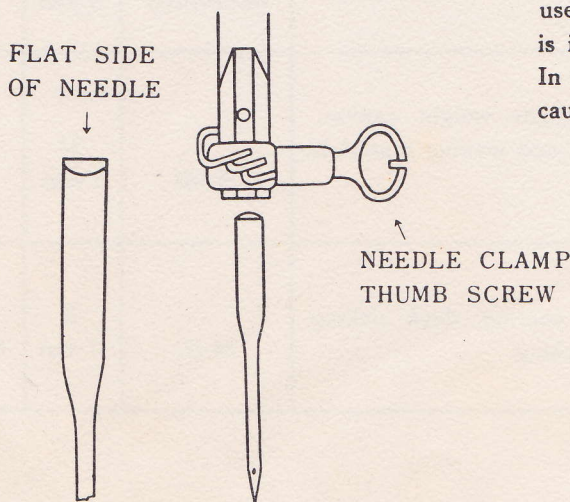

Fig. 8. To Set the Needle
Select a needle to fit the material to be sewn. See Chart on Page 7. To set needle in needle clamp, turn the hand wheel toward you until the take-up lever, (T) Page 2, reaches its highest position. Loosen thumb screw, Fig. 8, located on the needle clamp. **BE SURE THE FLAT SIDE OF SHANK OF THE NEEDLE IS PLACED TOWARD THE BACK SIDE OF MACHINE.** See Fig. 8. Now insert the needle in the clamp as far as it will go and retighten thumb screw. This machine uses needles classified as AA, J, or 15×1 which can be obtained in various sizes for different size threads and purposes. See Chart on Page 7.